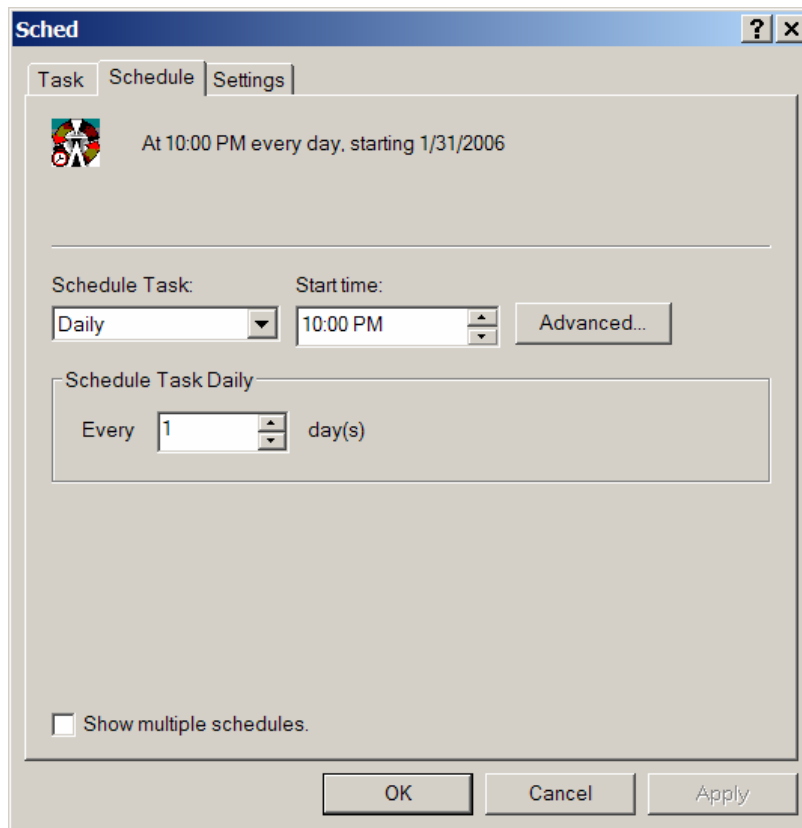

Figure 4. Setting the launch schedule for the ScaleLink Pro Scheduler.
12. Set the schedule to open the ScaleLink Pro Scheduler. See figure 4 below.